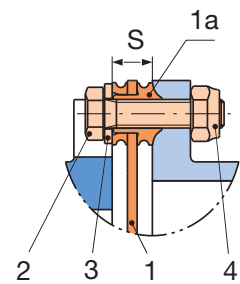

Fig. 119 Detail "X"
- Screw the disk packs (1, Fig. 119) over lightly-oiled hexagon head screws (2), washers (3) and hexagon nuts (4) alternately with the sleeve and the hubs.
- The generation of pre-tension force on the disk pack (1) generally takes place* via the hexagon nut (4). The disk pack (1) must not be distorted when applying the pre-tension force (secure screw (2) against turning).
- The hexagon nuts (4) or hexagon head screws (2) must be tightened crosswise and in several sequences to the full tightening torque M_a . For the appropriate tightening torques for each sequence, please see the appropriate Installation and Operational Instructions.
The radius of the collar bushings (Part 1a, Fig. 119, Detail "X") must lie in the grooves of the hubs and sleeves.